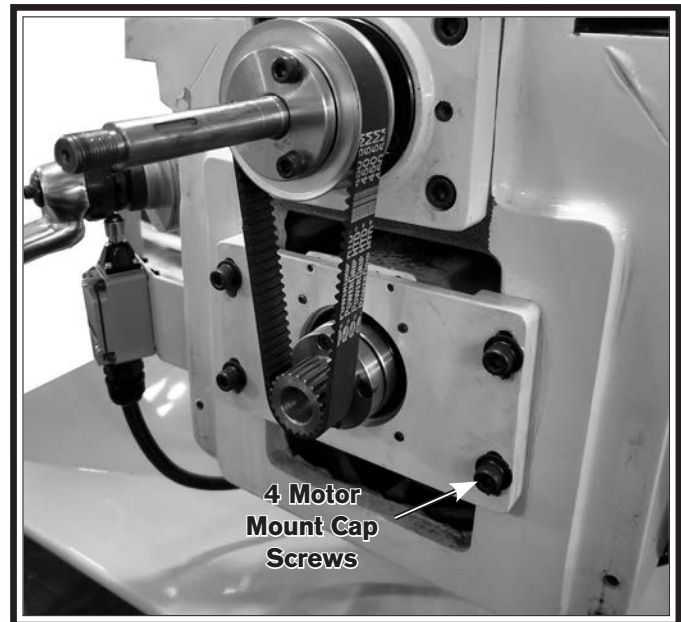

Figure 56. Y-axis synchronous drive belt.
7. Loosen four motor mount bolts (see **Figure 56**).